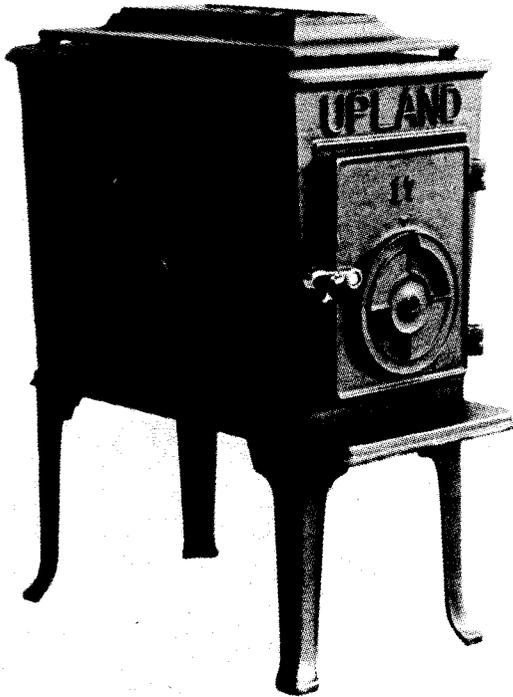

Fig. 18. Upland No. 17 box stove.
23. **Upland Stove Co., Inc.** (manufacturer), P.O. Box 87, Greene, NY 13778. The Upland (Fig. 18 and Table 1) is a near-replica of the Jøtul 602.